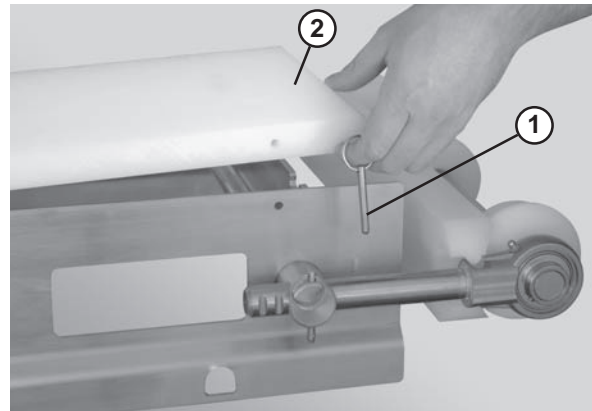

Figure 46
1. Remove the guides, if applicable, by removing the pull pins (**Figure 46, item 1**) that connect the guide (**Figure 46, item 2**) to the frame.